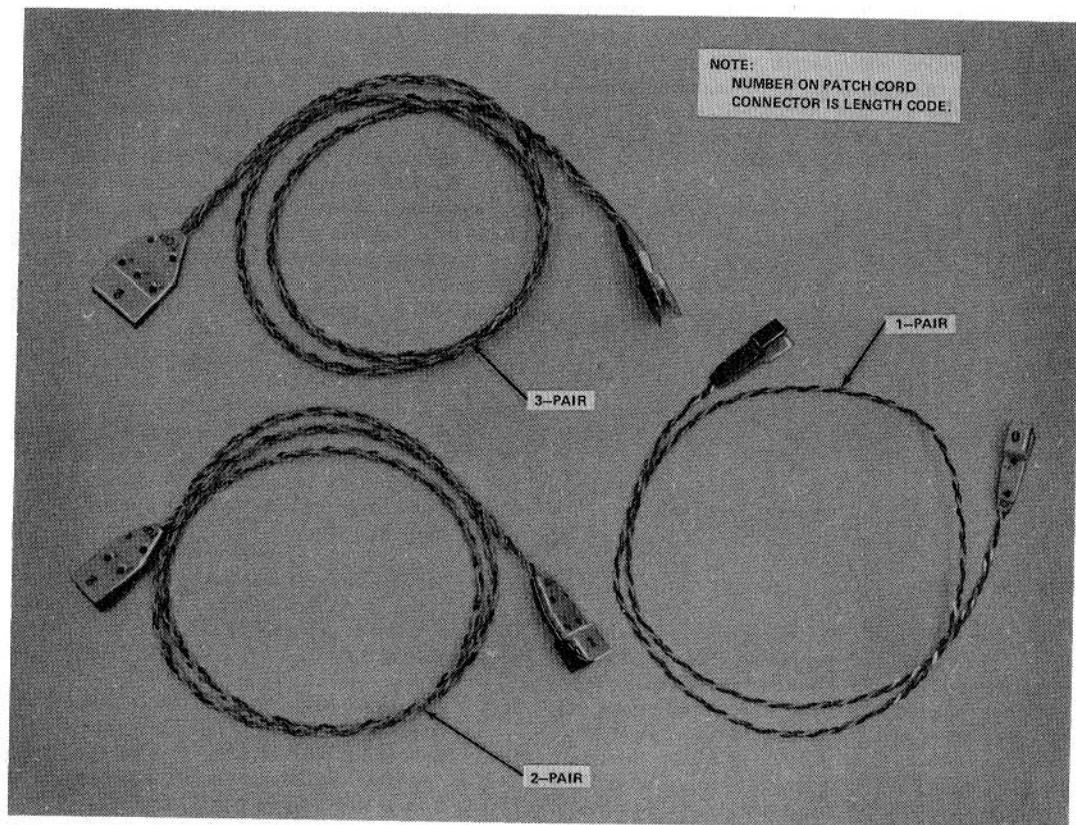

Fig. 9—88P-Type Patch Cords
- Replace the 788B1 tool (MD) with the 788B2
- Replace the 788D3 tool (MD) with the 788D4
- Add new Fig. 9
2.12 The 88P-type patch cords (Fig. 9) are intended primarily for use with the Customer Administered Terminal Move Service (CATMS), but may have applications with other installations of 88-type wiring and connecting blocks. They are available with 1, 2, or 3 pairs in fifteen discrete lengths from 25 to 235 centimeters. Stranded 24-gauge wire with PVC insulation is used. Attached to each end of the patch cord is a fire-resistant plastic connector which plugs into an 88-type connecting block mounted on the front of a wiring block. The connector is designed to fit over the teeth of the connecting block in such a way that pair alignment is maintained. The word "TOP" is visible on the white upper side of each connector to assure that leads are not reversed. The 88P-type patch cords are reusable and require no tools for installation or removal. A complete list of patch cords is contained in Table B.